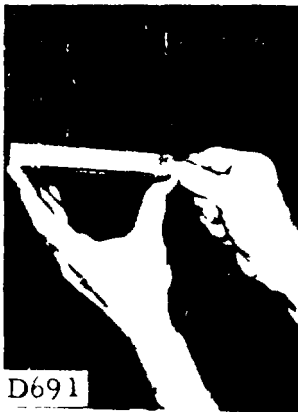

FIGURE 7-33.
e. Install the snap ring (see figure 7-33) on the output shaft to retain the rear clutch hub, making sure that the ring is securely seated in its groove. Check the output gear for free motion.